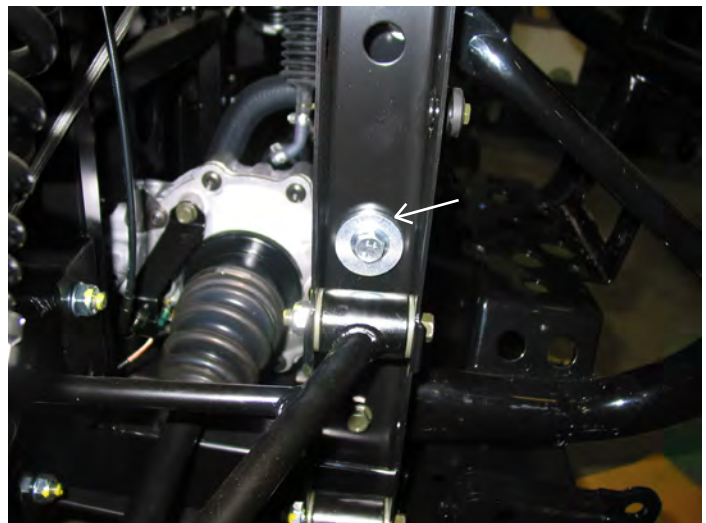
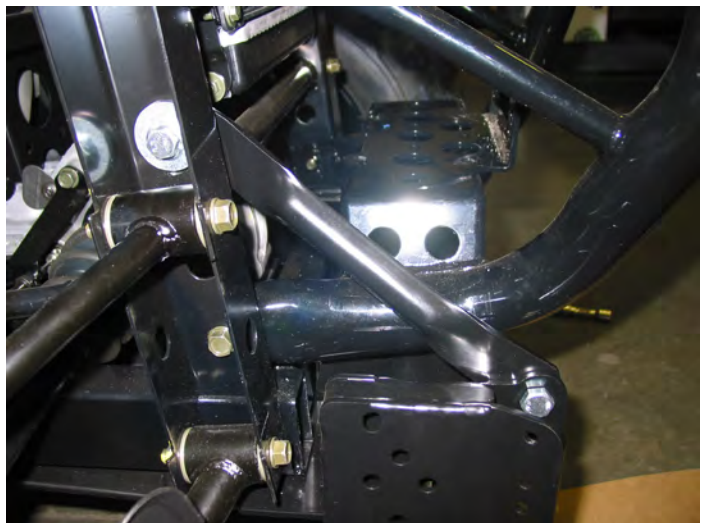

Figure 10
Figure 13
8. Install M10 x 40mm bolts with spacers, one spacer on each side of the frame rails. The spacer holds the strap away from the frame to provide adequate clearance. See figure 10 and 11.
10. Figure 10 shows the placement of the strap from the frame rail to the mount. Use a M10 x 30mm 3/8 washer and M10 nylock nut to attach to the front plow mount, see Figure 13.